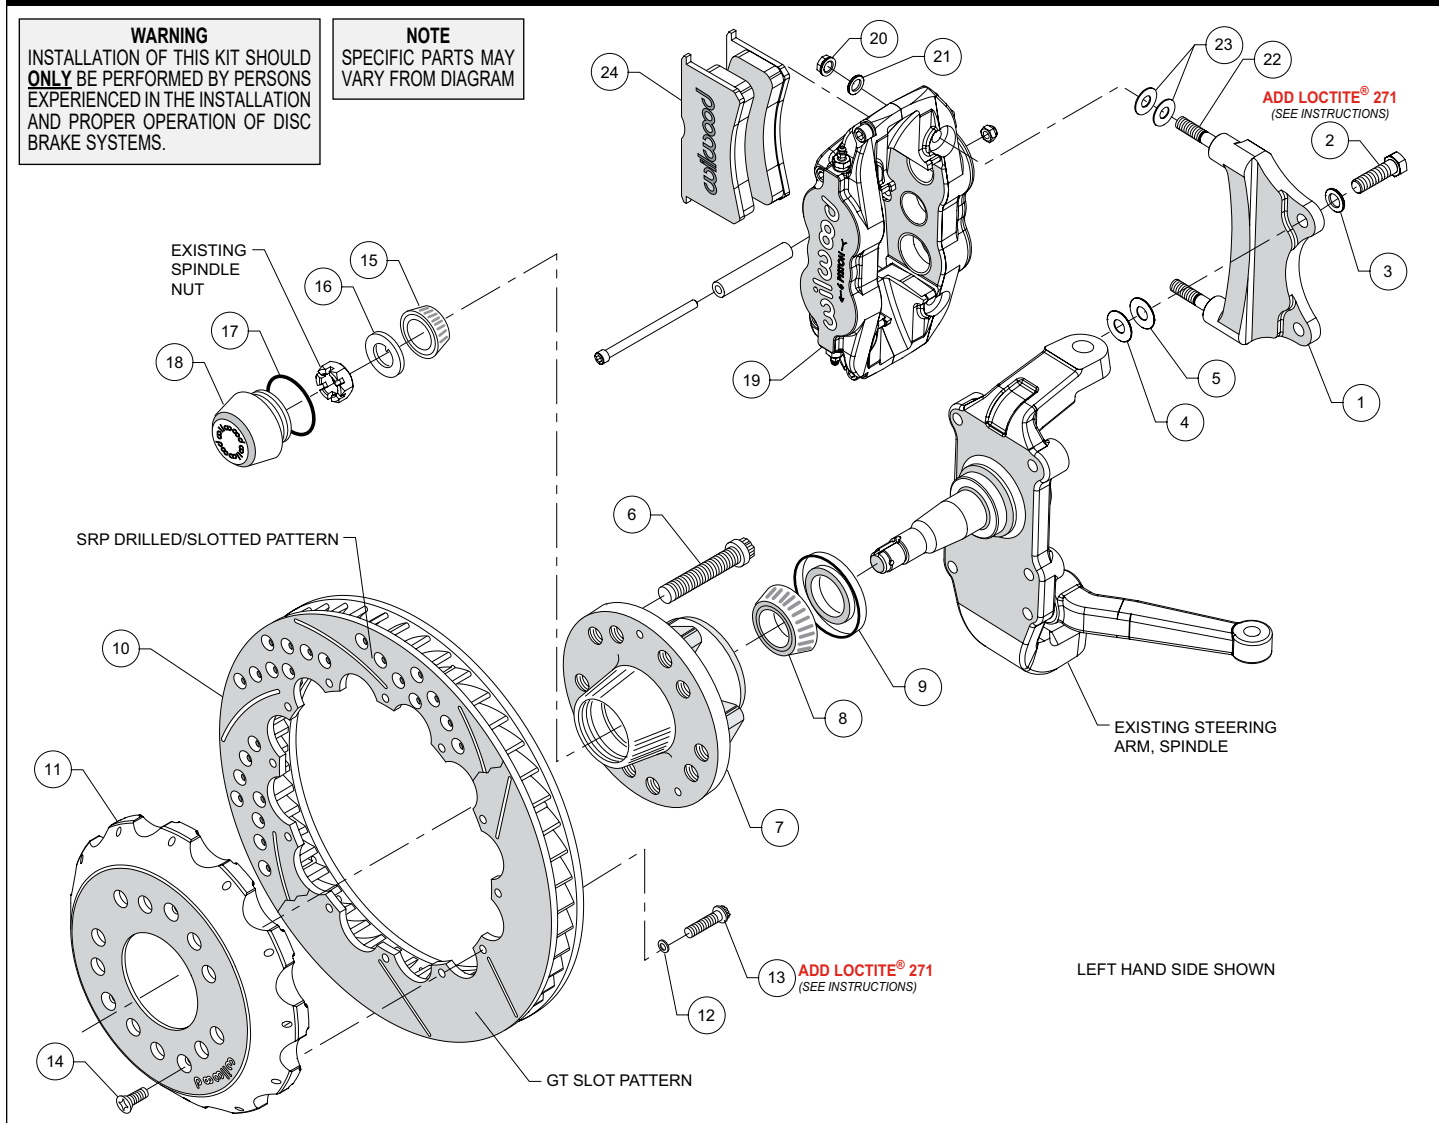
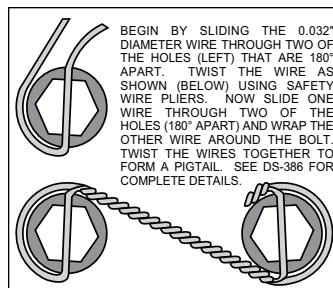

Figure 1. Typical Installation Configuration
Figure 3. Safety Wire Diagram
**Assembly Instructions** (numbers in parenthesis refer to the parts list on the preceding page, and Figure 1):
- The caliper mount bracket (1) should initially be installed with clean, dry threads on the mounting bolts. Orient the bracket as shown in Figure 1, and install using bolts (2) and washers (3). Initially place one each .016" thick shim (4) and .030" thick shim (5) on each bolt between the bracket and upright, Figure 1 and Photo 1. Temporarily tighten the mounting bolts. **NOTE:** *The bracket must fit squarely against the mount bosses on the upright.* Inspect for interference from casting irregularities, machining ridges, burrs, etc. Later, after the caliper alignment has been checked, the mount bolts will be secured using red *Loctite*® 271.
- Pack the large inner bearing cone (8) with high temperature disc brake bearing grease (available from your local auto parts store) and install into the backside of the hub (7), Photo 3.
- Install the grease seal (9) by pressing into the backside of the hub (7), flush with the end of the hub, Photo 3.
- Orient the rotor (10) and the hat (11) as shown in Figure 1 and Photo 4. Attach rotor to hat using bolts (13) and washers (12). Apply red *Loctite*® 271 to the bolt threads and torque to 155 **in-lb** using a criss-cross pattern. For an added measure of security, the bolts may be safety wired using standard 0.032 inch diameter stainless steel safety wire as shown in Figure 3. Refer to Wilwood's data sheet DS-386 (available at [www.wilwood.com/Pdf/DataSheets/ds386.pdf](http://www.wilwood.com/Pdf/DataSheets/ds386.pdf)) for complete safety wire installation instructions.
•Slide the hat/rotor assembly (10/11) onto the hub (7) taking care to align the small countersunk holes in the hat (11) with the small threaded holes in the hub. **NOTE:** The hat must fit flush against the hub face or excessive rotor run out may result. Install three flat head screws (14) through the small holes in the hat (11), Photo 6, and torque to 85 in-lb.
•**NOTE:** This kit contains distinct right and left hand calipers that must be mounted in a specific direction, as described below. Initially place two .035" thick shims (23) on each stud (22) between the caliper and the bracket, as shown in Figure 1 and Photo 7. Mount the caliper (19) onto the bracket (1) using lock nuts (20) and washers (21), Figure 1. Ensure that the caliper is mounted so the largest pistons are at the rotor exit end of the caliper, in relation to the direction of rotor rotation. Temporarily tighten the lock nuts and view the rotor through the top opening of the caliper. The rotor should be centered in the caliper, Photo 8. If not, adjust by adding or subtracting shims (4 and/or 5) between the bracket and the upright. Always use the same amount of shims on each of the two mounting bolts. Once the caliper alignment is correct, remove the bracket mounting bolts one at a time, apply red *Loctite*® 271 to the threads, and torque to 55 ft-lb.